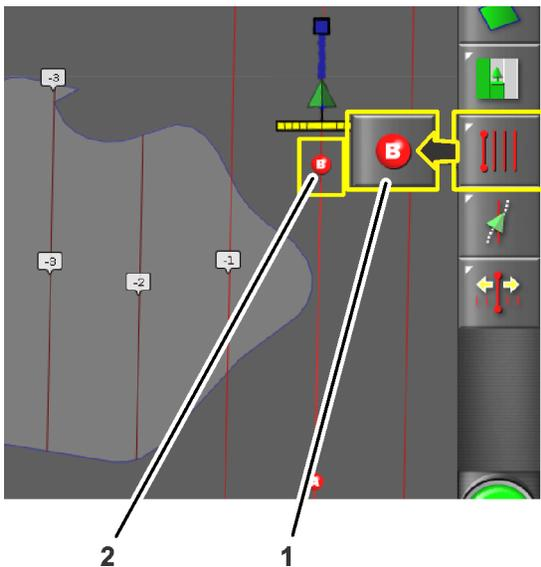

Figure 13
6. Drive the machine to the other side of the field boundary to the location where you want the AB guideline to reference (Figure 13).
7. Press the set point B icon (Figure 13).